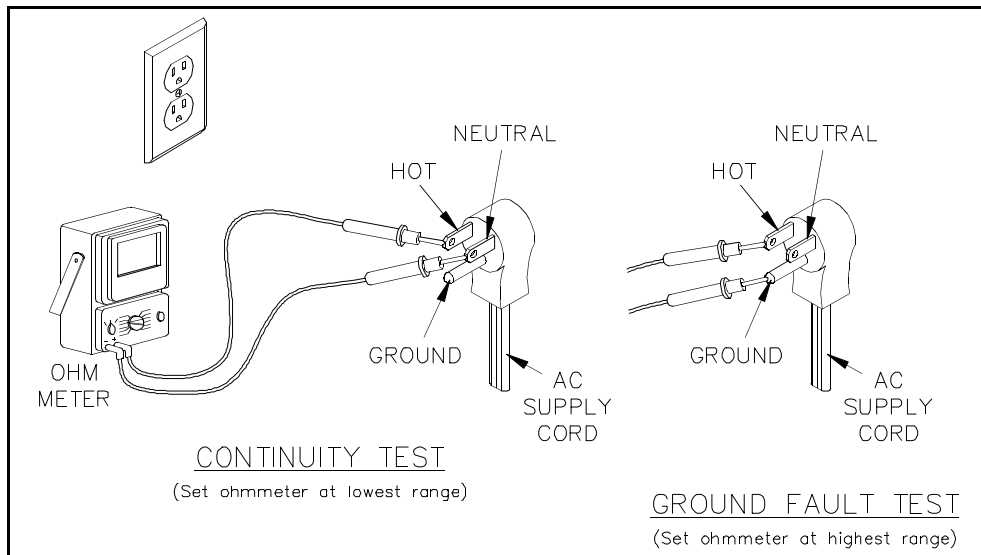

Figure 7 - Continuity Ground Fault Test - AC
4. **Ground Fault Test:** With the Selector switch still in the AC position and the AC Supply cord disconnected, use an Ohmmeter (set on highest scale) to measure resistance between the HOT and GROUND prongs, as illustrated in Figure 7. Read the Ohmmeter and refer to TABLE 2.
Continuity Test: With the Selector switch still in the AC position and the AC cord disconnected, use an Ohmmeter to measure resistance between the HOT and NEUTRAL prongs of the AC cord connector, as in Figure 7. Read the Ohmmeter and refer to TABLE 2.
2. Disconnect the AC supply cord and use an Ohmmeter to measure the HOT and NEUTRAL prongs of the AC connector, as in Figure 7. The measurement must be between 76 Ohms and 85 Ohms (or, if the heater is still hot, between 82 ohms and 91 ohms). Replace the heater if outside these stated limits.